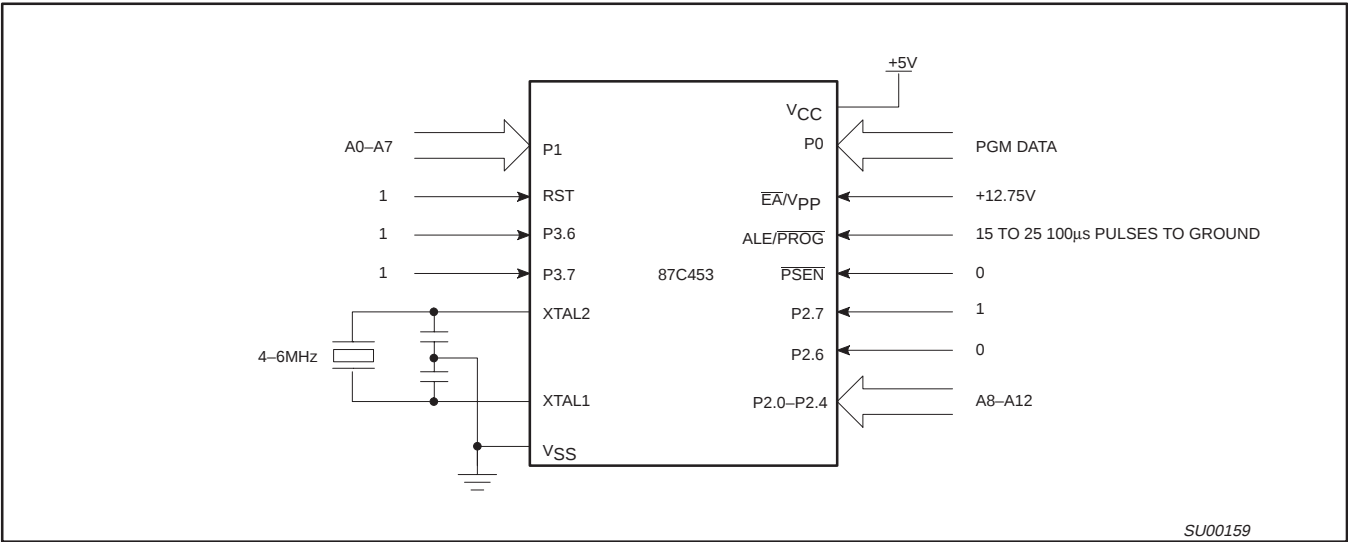
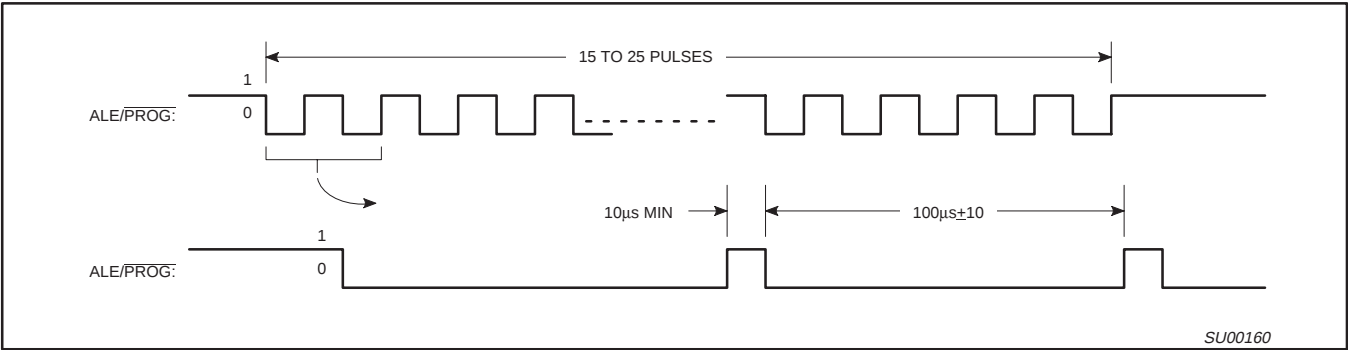
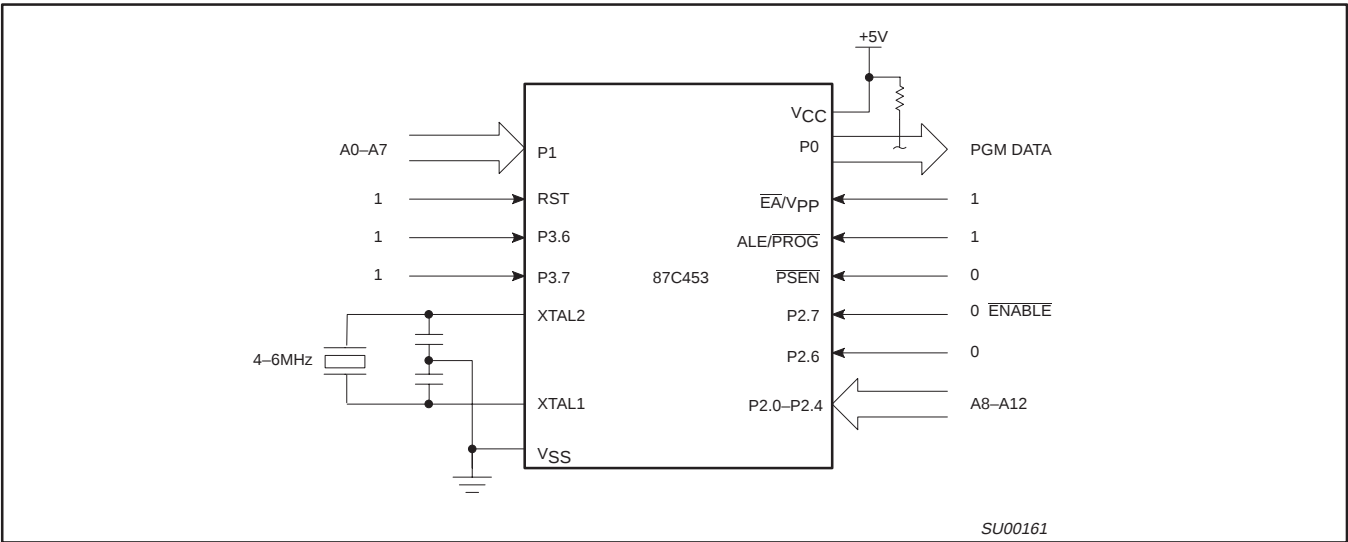

Figure 25. Programming Configuration
Figure 26. PROG Waveform
Figure 27. Program Verification
Table 5 shows the logic levels for reading the signature byte, and for programming the program memory, the encryption table, and the lock bits. The circuit configuration and waveforms for quick-pulse programming are shown in Figures 25 and 26. Figure 27 shows the circuit configuration for normal program memory verification.
The setup for microcontroller quick-pulse programming is shown in Figure 26. Note that the 87C453 is running with a 4 to 6MHz oscillator. The reason the oscillator needs to be running is that the device is executing internal address and program data transfers.
The address of the EPROM location to be programmed is applied to ports 1 and 2, as shown in Figure 25. The code byte to be programmed into that location is applied to port 0. RST, $\overline{PSEN}$ and pins of ports 2 and 3 specified in Table 5 are held at the 'Program Code Data' levels indicated in Table 5. The ALE/PROG is pulsed low 15 to 25 times, as shown in Figure 26.
If lock bit 2 has not been programmed, the on-chip program memory can be read out for program verification. The address of the program memory locations to be read is applied to ports 1 and 2 as shown in Figure 27. The other pins are held at the 'Verify Code Data' levels indicated in Table 5. The contents of the address location will be emitted on port 0. External pull-ups are required on port 0 for this operation.
- * FOR PROGRAMMING VERIFICATION SEE FIGURE 25.
FOR VERIFICATION CONDITIONS SEE FIGURE 27.